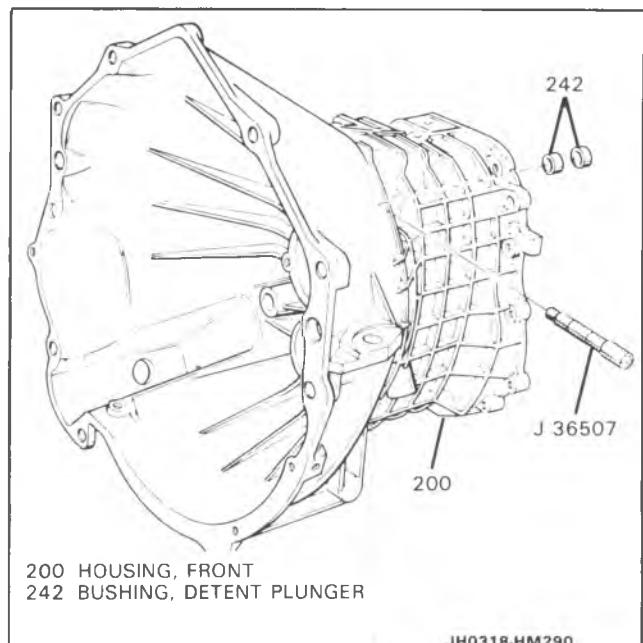

Figure 53 Removing Detent Plunger Bushings
12. Two detent plunger bushings (242), using J 36507 (Figure 53).